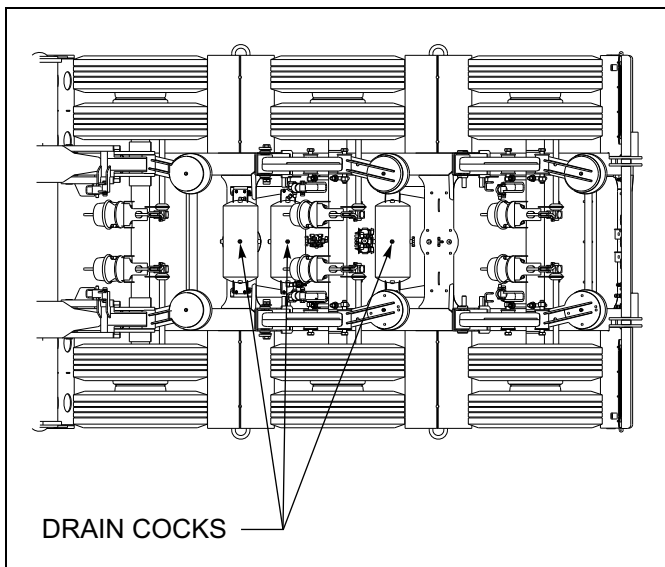

Figure 4-9: Drain Cock Locations
4. Drain air reservoir daily. A drain cock on the bottom of each air reservoir vents the tank to drain collected water and oil. If held open, air pressure in the tanks is relieved, causing the emergency or parking brakes to be applied (See Figure 4-9.)